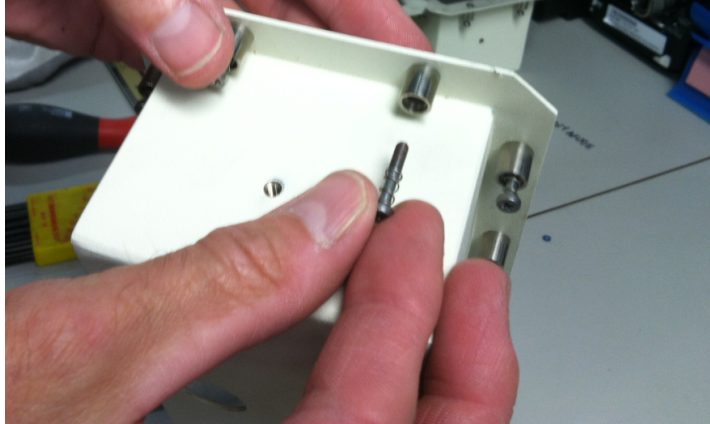

Figure 21: Insertion of the retention screw into the retainer body
6. Carefully insert a new screw and spring as shown in Figure 21. Applying slight pressure, turn the screw clockwise to engage the screw threads with the retainer ring, taking care not to press hard enough to dislodge the O-ring.